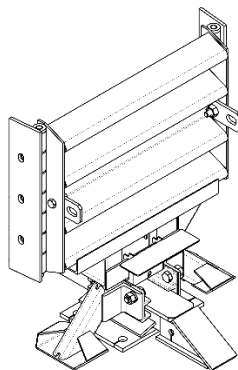

Figure 35
6. Remove the Pos Assembly and attach a chain to the Pullout Brackets on the first Diaphragm (Figure 35). Attach both ends of chain to a heavy vehicle (such as a 1 ton pickup).